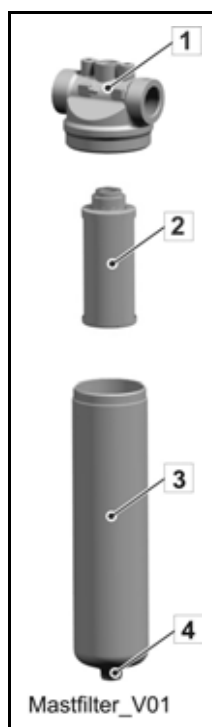

Fig. 279
The boom filter (**Fig. 279**) for the placing boom hydraulic system is a built-in tube filter located in the emergency control switch cabinet, near the placing boom control block.
- Unscrew the filter bowl (3) (**Fig. 279**) at the bottom hexagon (4) using a ring spanner.
- Screw (pre-2011 models: "pull") the old filter insert (2) off of the filter head.